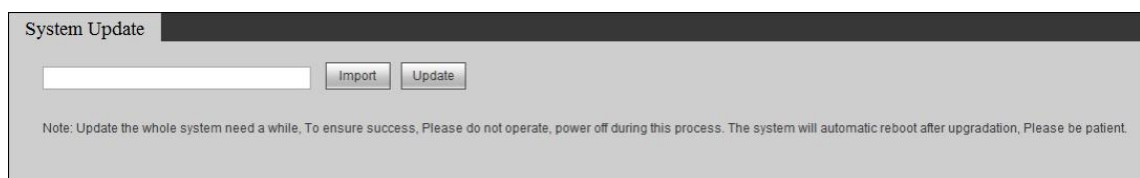

Figure 4-38
Step 1 Select "Setup> System Config> System Upgrade". The system displays "System Upgrade" interface, as shown in Figure 4-38.